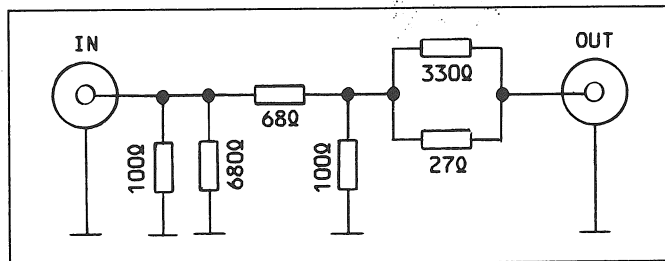

Fig.19
- 10 dB RF attenuator (Fig.19)